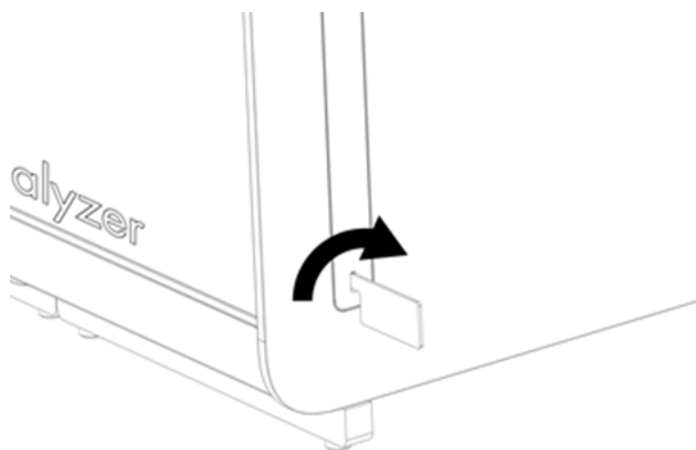

Figure 13. Removing protective covers.
- e. Remove the protective covers from the side of the Analytical Module, which is where the additional Analytical Module will be attached (Figure 13).